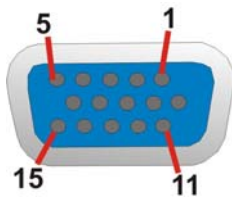

Figure 3-24: VGA Connector
**CN Pinouts:** See **Figure 3-24** and **Table 3-8**